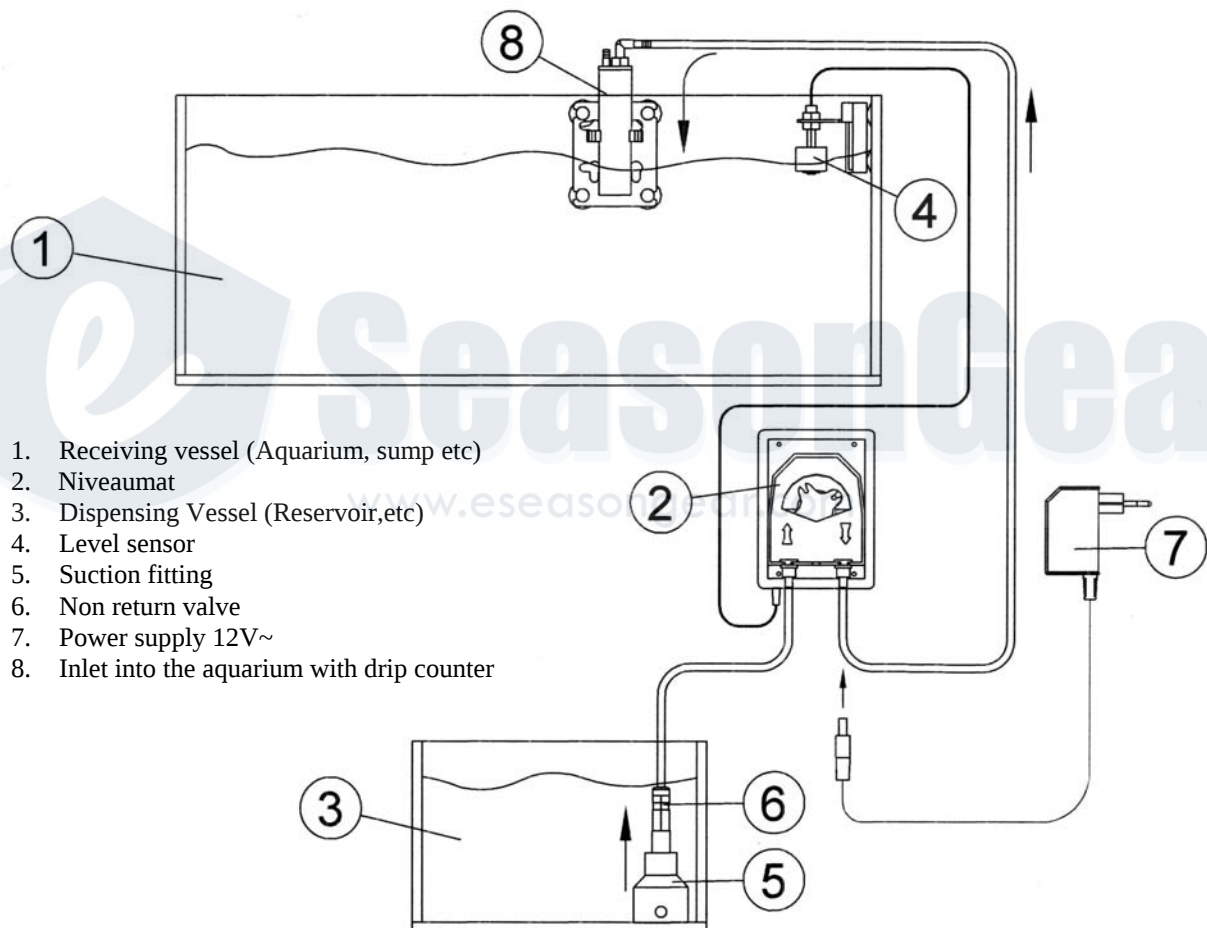

fig 1: Installation method for dosing from a dispensing vessel,
The Niveumat comprises the following parts (fig 1)
- The pump is self priming and should be mounted above the water level of the liquid storage tank (see fig 1).
- The outlet should always be positioned above the aquarium or sump. If the pump stops with the drive axle in the horizontal position then the pump will not act as a non return valve. The air gap between the outlet hose and water prevents aquarium water being syphoned back into the liquid storage tank (see fig 1).
- The non return valve (6) must be placed in the inlet fitting (5) of the pump. This prevents the pressure tube emptying and ensures that the same volume is dosed during each operating cycle (see fig 1).